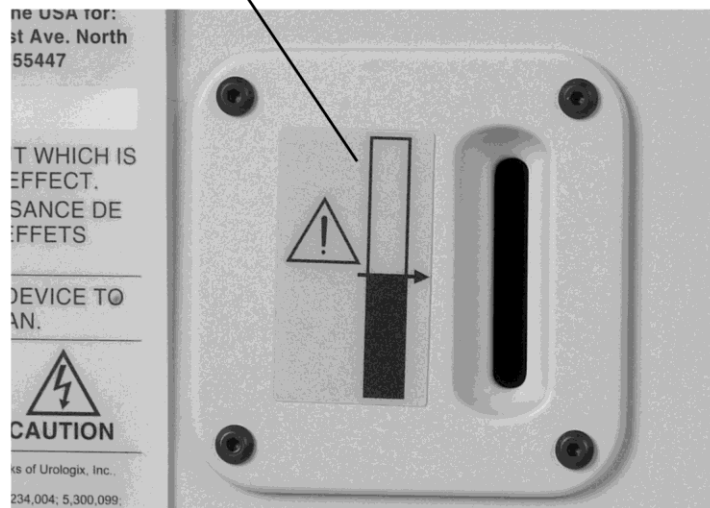

Figure 4-1. Internal coolant level indicator
- Check the sight gauge on the rear of the CoolWave Control Unit to ensure that the internal coolant level is within the white open section of the correct level indicator (Figure 4-1).